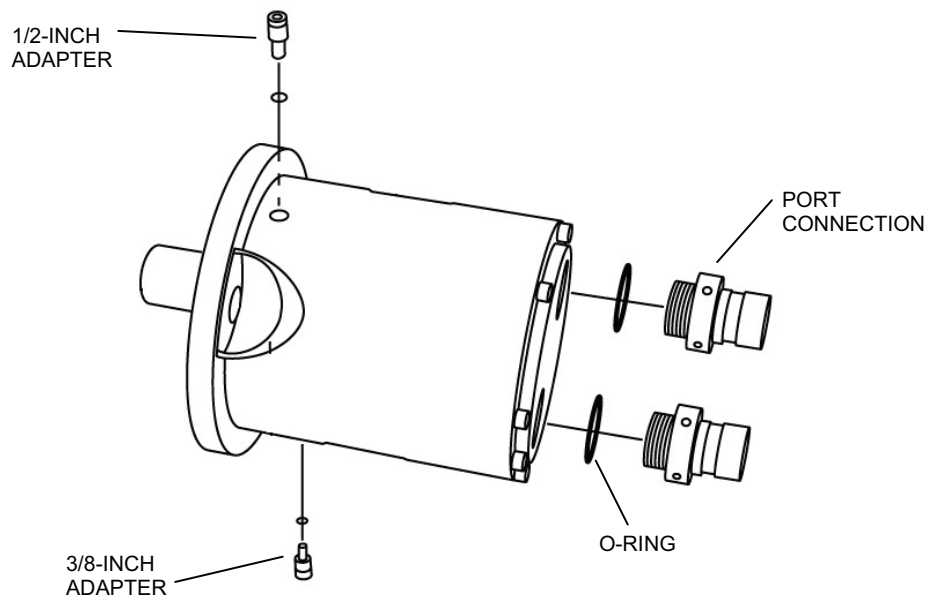

Figure 18. New Pump Port Connections and Adapters.
7. Prepare the new pump as follows (see Figure 18):